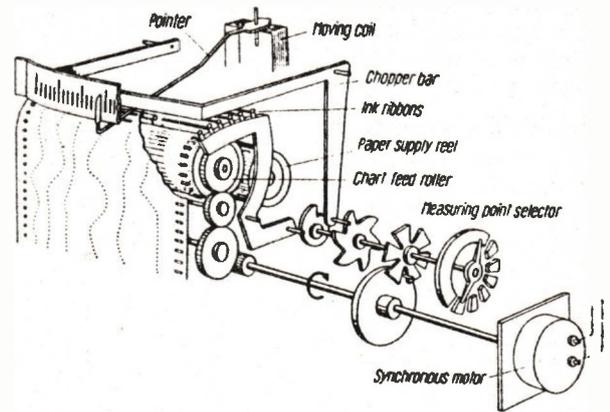
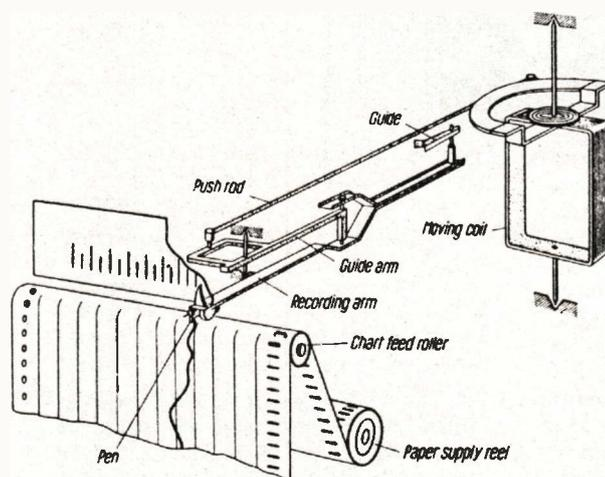

Fig. 11. Dotting recorders offer the advantages in slow-speed applications of being suitable for multi-channel multiplexing.
Fig. 13. Special linkages are used to linearize the non-uniform movement produced by a moving coil pen drive.
**mechanisms:** Fast writing speeds require continuous marking and for these the writing mechanism functions continuously. For very slow speed needs, as are found in process plant monitoring an alternative, in which a dot is produced on the paper at regular periods, has certain advantages. Figure 11 shows one form of mechanical arrangement. A separate motor, or pick-off from the chart drive causes a point to periodically press on the paper, marking it by the appropriate method used. By incorporating a Geneva mechanism (one that rotates a shaft in steps) the input signal can be switched sequentially over a number of different signal channels (six and twelve are usual). Also synchronised to the channel changing action is an inking system that steps from colour to colour to provide a different coloured dot for each channel. Inking may be as shown (different ribbons) or may be provided as individual pads each soaked with ink. A multipoint dotting head wipes through this ink. One maker uses a multicolour single ribbon, akin to a typewriter ribbon.
**Moving coil mechanisms:** Basically these use modified moving coil and pointer. The end of the pointer carries an ink pen or acts as a marking point when forced onto the chart paper in dotting styles (see fig. 11). Simple systems trace an arc across the chart giving a non-linear record. (curved markings on the paper overcome this but complicate the platen design). This can be linearized to provide better accuracy by various means such as that shown in Fig. 13.